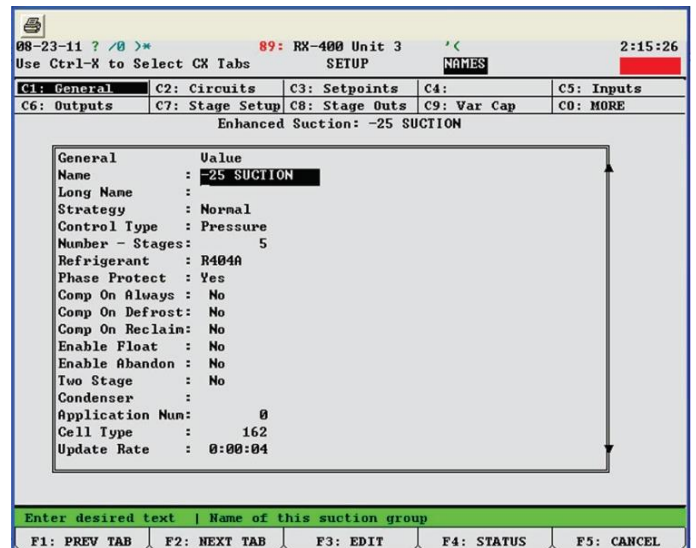

Figure 17 - Enhanced Suction General Setup Screen
6. This will open the suction group setup screen as shown below in **Figure 17**.